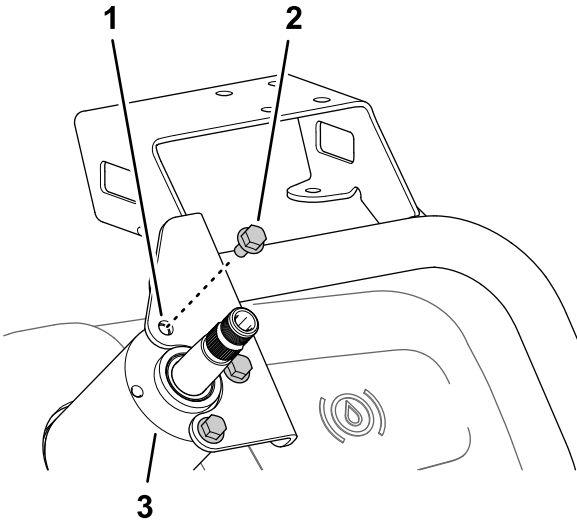

Figure 161
2. Assemble the monitor mount to the housing of the steering valve (Figure 161) with the 3 flange-head bolts (6 x 12 mm).